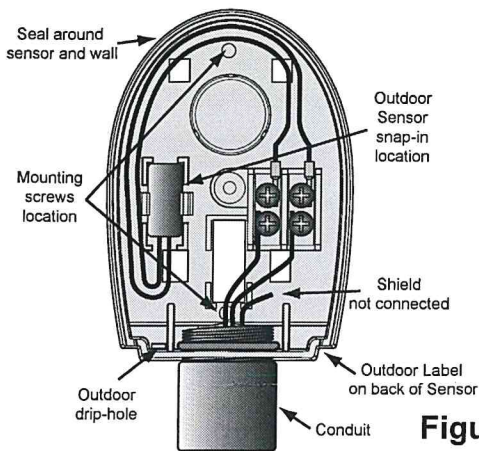

Figure 2
- The sensor should be secured to the base as shown in Figure 2.